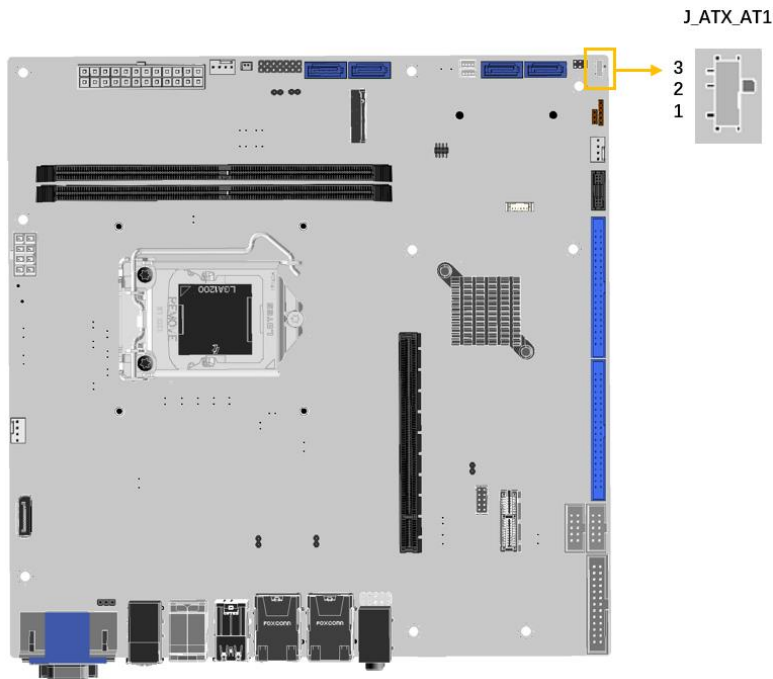

Figure 3-4: AT/ATX Power Mode Switch Locations
- CN Location:** See Figure 3-4